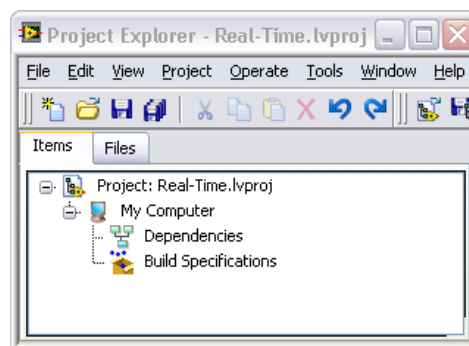

Figure 2-10. Real-Time LabVIEW Project
2. Referring to Figure 2-10, under which node do you add a CompactRIO target?